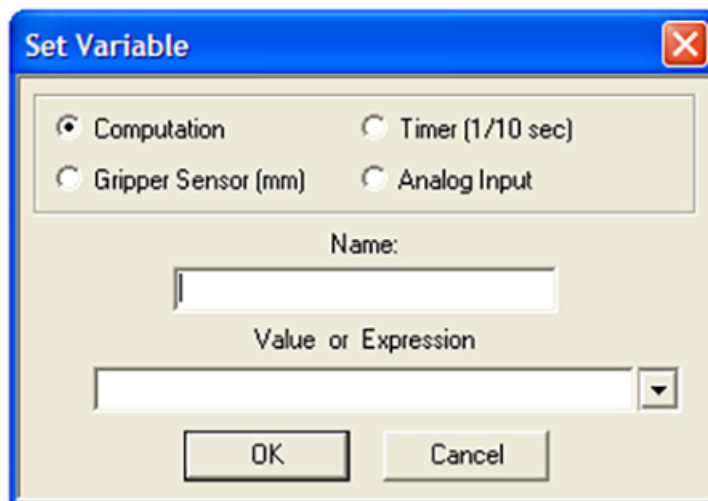

Figure 1. Set Variable Dialog Box
- Select the **Set Variable** command to open the Set Variable dialog box, as shown in Figure 1.